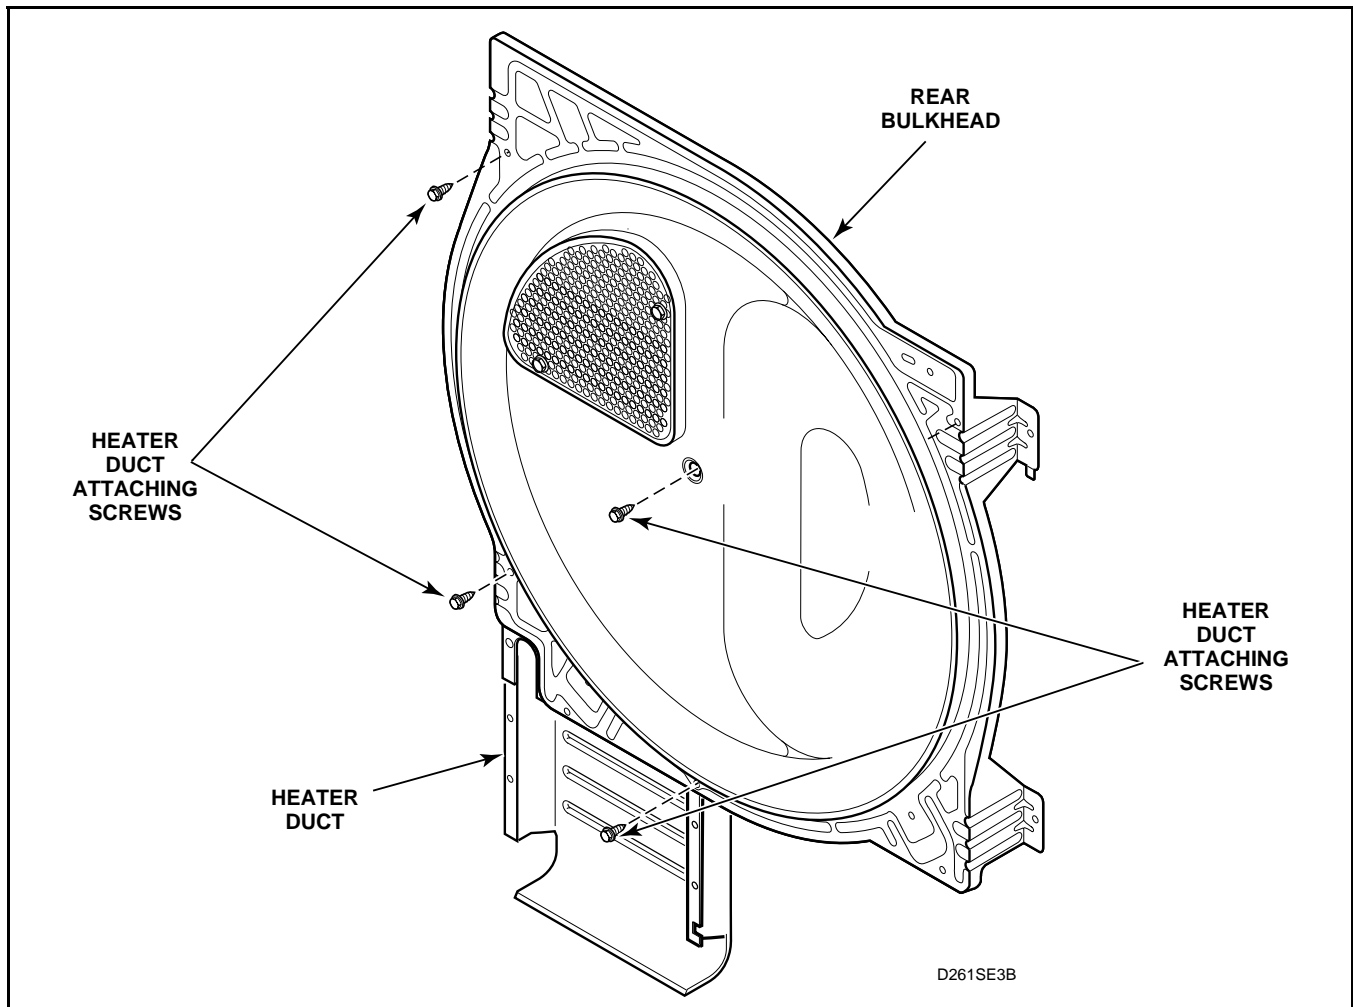

Figure 55
- (5.) Remove heater duct from rear bulkhead. See *Figure 55*.
- k. To remove heater duct from rear bulkhead. See *Figure 55*.